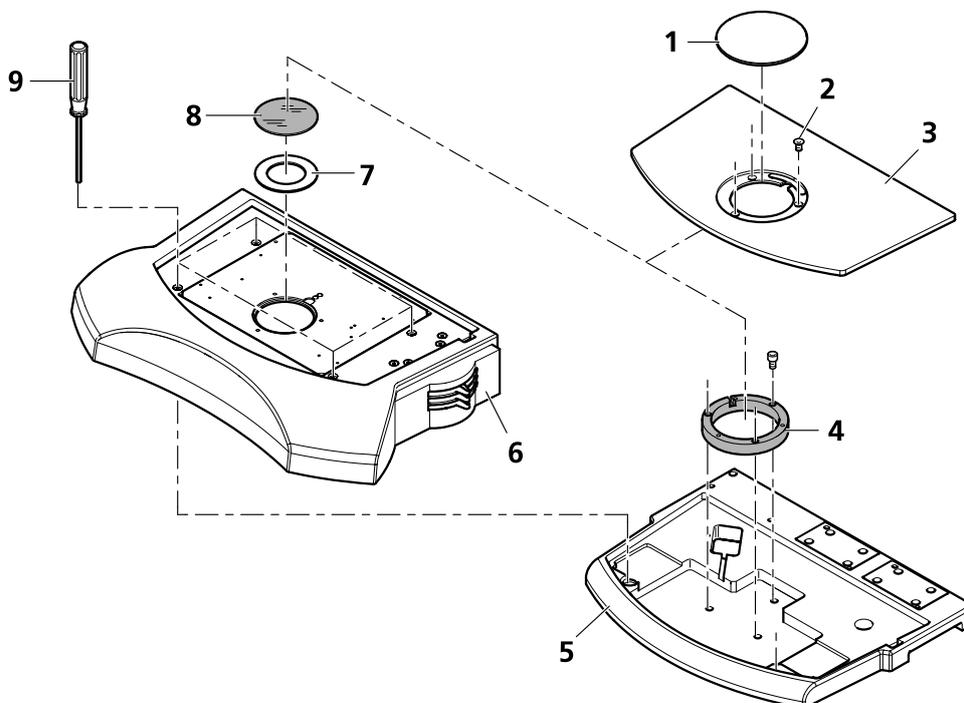

Fig. 13 Installing the transmitted-light equipment S
- If the adapter ring (Fig. 13/4) is not mounted (e.g. after the removal of the transmitted-light equipment S), use three Allen screws (SW 3) to fasten it to the stand base (Fig. 13/5); then, put the insert plate (Fig. 13/3) onto the base.
- Fasten the insert plate (Fig. 13/3) without stage adapter to the adapter ring (Fig. 13/4) by means of three short Allen screws (Fig. 13/2).
- Remove the insert plate (Fig. 13/3). To this end, loosen the three short Allen screws (Fig. 13/2), lift up the insert plate (using the grip hollow at the right edge of the stand base (Fig. 13/5)) and, taking hold of it with both hands, remove it safely.
- Loosen the three Allen screws (SW 3) of the adapter ring (Fig. 13/4) with the ball-headed screwdriver and remove the adapter ring.
- Put the transmitted-light equipment S (Fig. 13/6) laterally correct onto the stand base. Verify that the two large plastic taper pins on the bottom of the transmitted-light equipment S engage with the respective holes of the stand base.
- Use the ball-headed screwdriver (Fig. 13/9) to screw down the four countersunk Allen screws (SW 3) hand-tight on the transmitted-light equipment S.
- Put the insert plate (Fig. 13/3) onto the transmitted-light equipment S (Fig. 13/6).
- Insert the opal glass plate \varnothing 84 mm (Fig. 13/8) to avoid that screws and other small parts get lost during the further installation work.
- Using the three, short Allen screws (Fig. 13/2) fasten the insert plate (Fig. 13/3) (without stage - adapter) to the transmitted-light equipment S.
- Replace the opal glass plate \varnothing 84 mm (Fig. 13/8) by insert 52/84 (Fig. 13/7).
- Insert the 120 mm glass plate (Fig. 13/1); to remove it again, press on its rear edge.